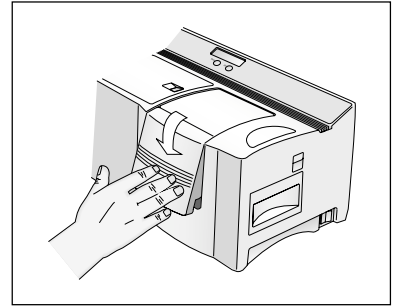

figure 6
- ⑥ Slowly close the doors. Close the stamp compartment cover to the lock position in order for the xenon lamp to flash (see figure 6).